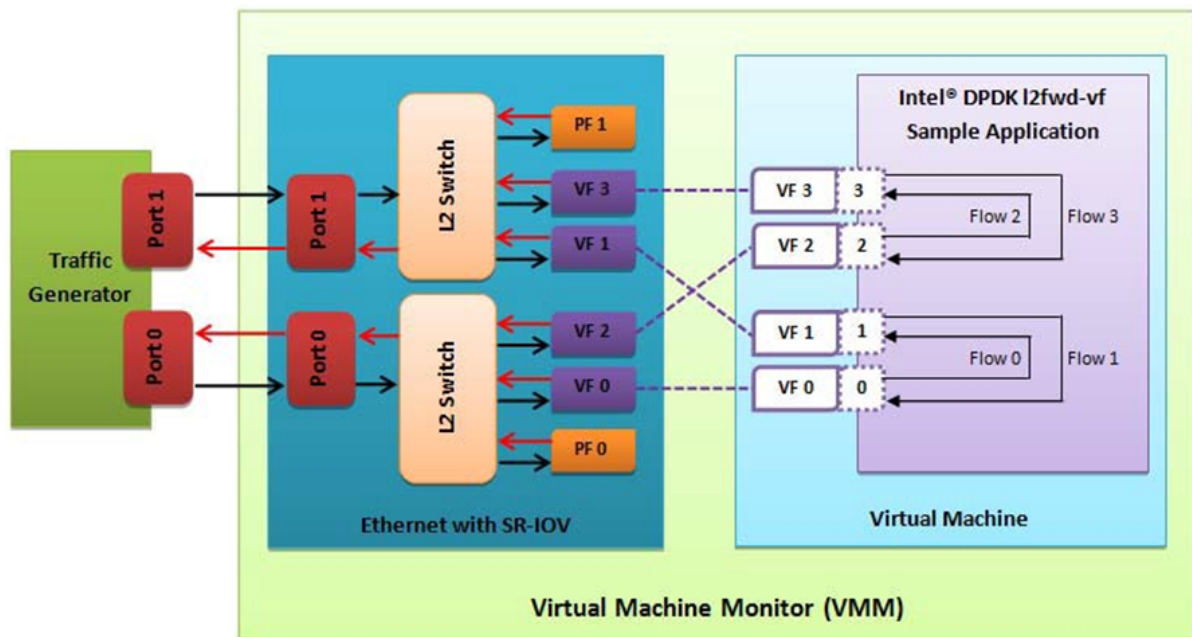

Fig. 28.2: Performance Benchmark Setup
- The Virtual Machine Monitor (see Fig. 28.2) is equivalent to a Host OS with KVM installed as described in the instructions.